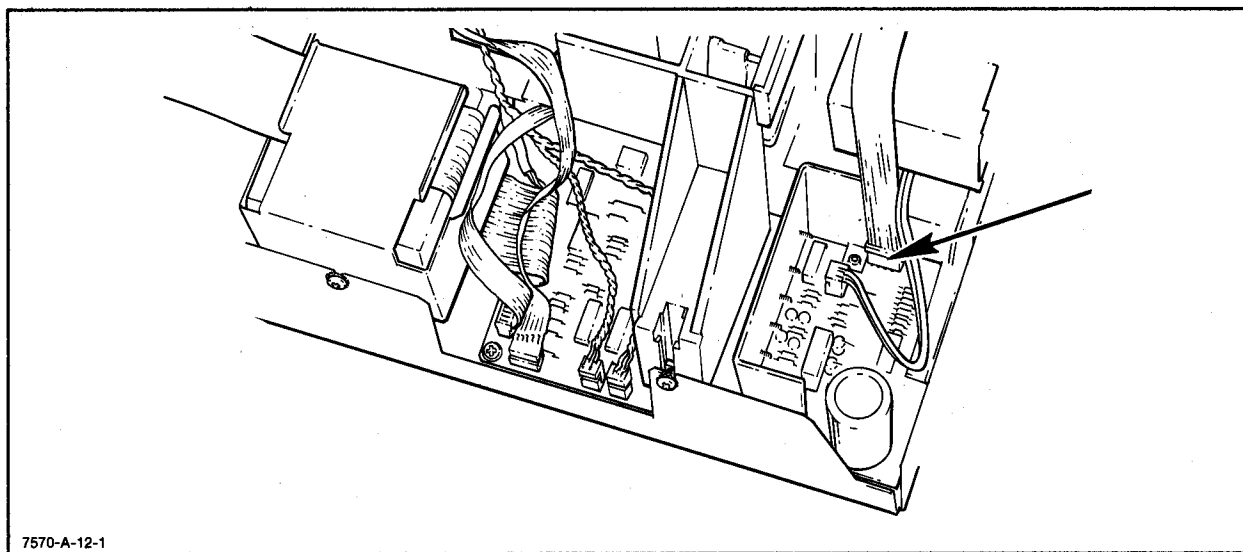

Figure 6-4. Trailing Cable Connection
- e. Unplug the trailing cable from the PCA. See Figure 6-4.